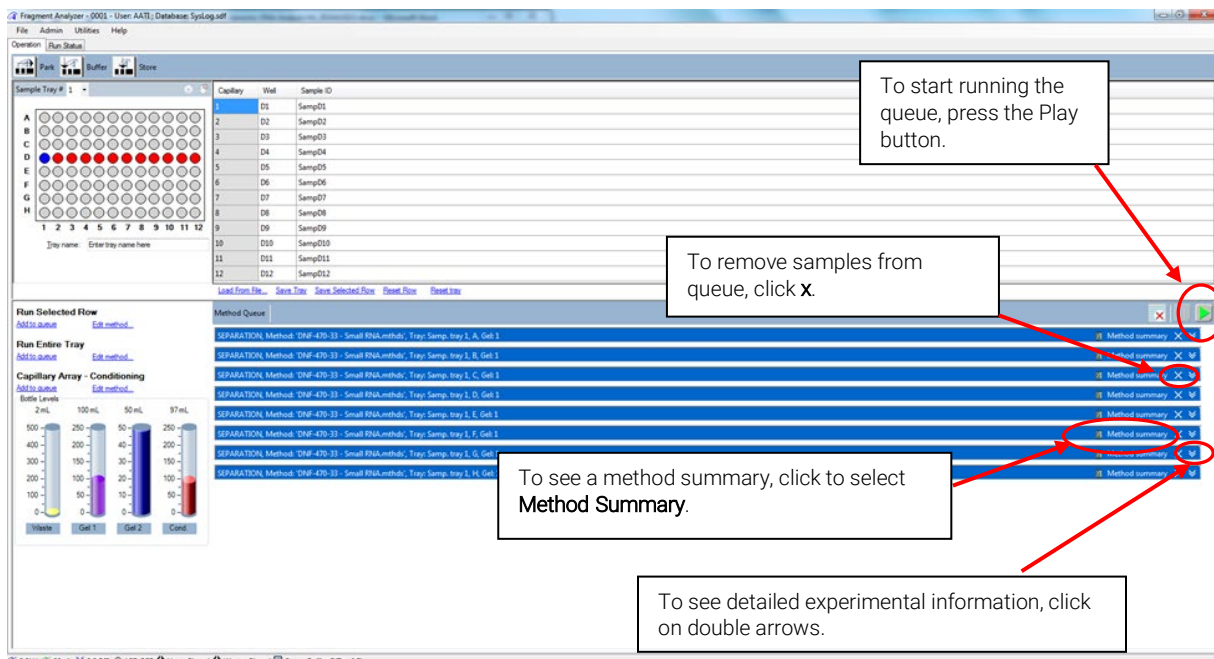

Figure 5. Main screen after selection of samples to the run queue
- After a row or tray has been added to the queue, the method(s) will be listed on the main screen under the **Method Queue** field (Figure 5).